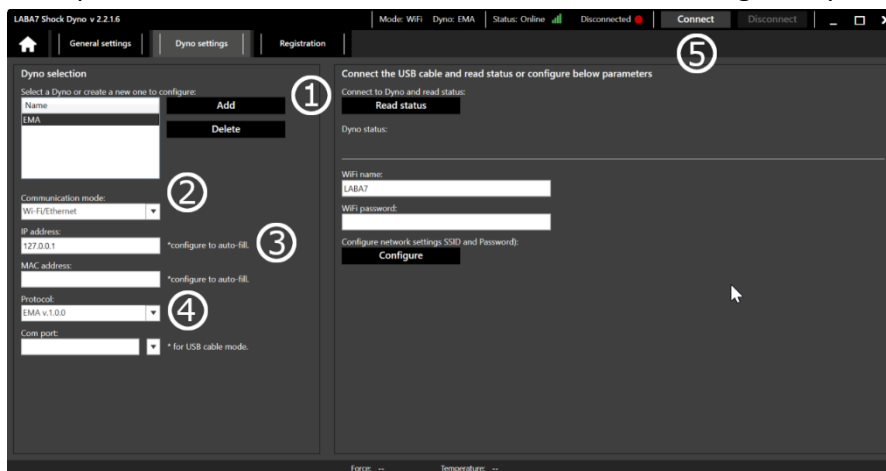

Figure 14
8. Add a new Dyno model by clicking Add button (Figure 14 – Step 1).
11. Select Wi-Fi/Ethernet communication mode. (Figure 14 – Step 2)
12. Enter the IP address of the device. The IP address is shown on the screen of the power supply. (Figure 14 – Step 3)
13. Select protocol: EMA v.1.0.0 (Figure 14 – Step 4).
14. Press **Connect** (Figure 14 – Step 5). **Connected**  status indicates, that the connection is successful.